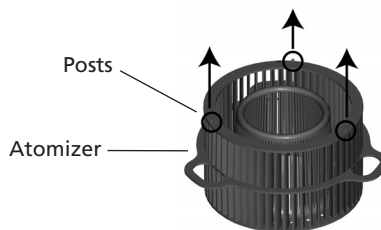

Figure 15
3. Place the Atomizer in the Upper Reservoir, aligning the three oval holes in the Atomizer with the three prongs in the Upper Reservoir. The side of the Atomizer with three short posts should be facing upward. See Figure 15.